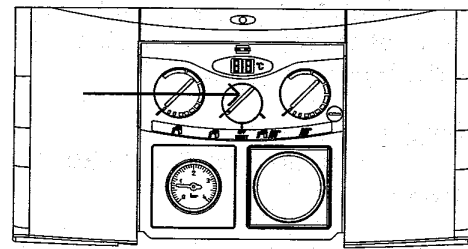

Fig. 2
- 2.1** With the boiler mode selector switch (6) turned to  (Fig. 2) the main burner will ignite electronically whenever water is drawn from the tap.